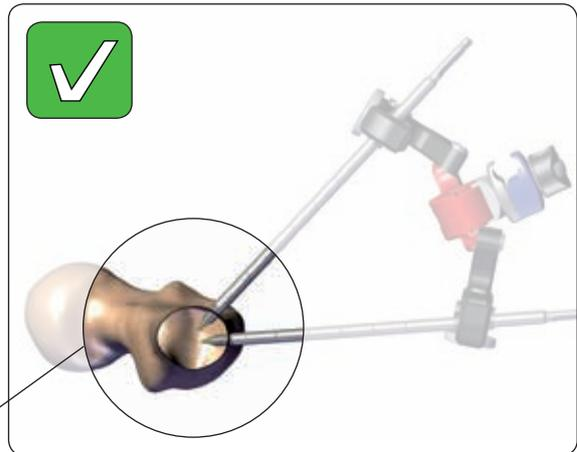

Fig. 6a
**WARNING:** Stability of the clamp relies on correct spacing between the screws at the bone surface. To guarantee the system's stability, screws must be accurately inserted aiming at the center of the bone (Fig. 6a-b).